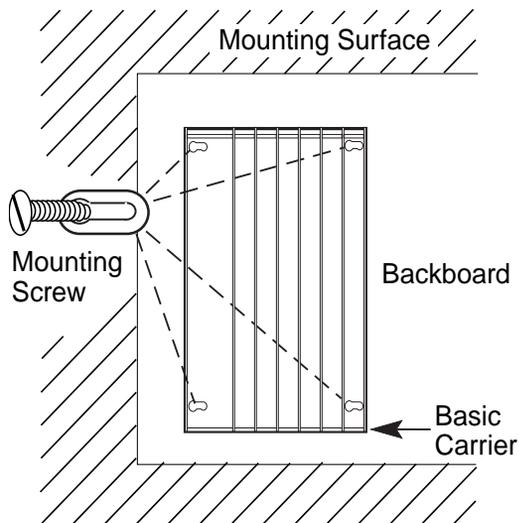

Figure 2-5. Marking the Basic Carrier Screw Holes
1. Mark the screw-hole locations on the backboard, using the basic carrier or the template supplied with the plastic preassembled backboard as a guide. See Figure 2-5.